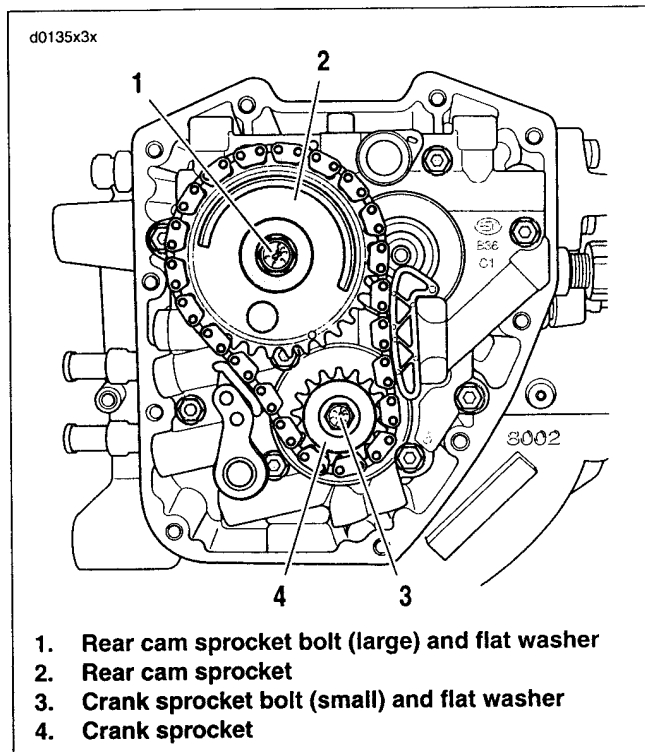

Figure 3-75. Flange Bolts
14. See Figure 3-75. Apply oil to bottom of **new** crank flange bolt head and washer (3). Loosely install bolt (small) with flat washer to secure crank sprocket (4) to end of crankshaft.
15. Apply oil to bottom of **new** rear sprocket bolt head and washer (1). Loosely install bolt (large) with flat washer to secure rear cam sprocket (2) to end of camshaft.